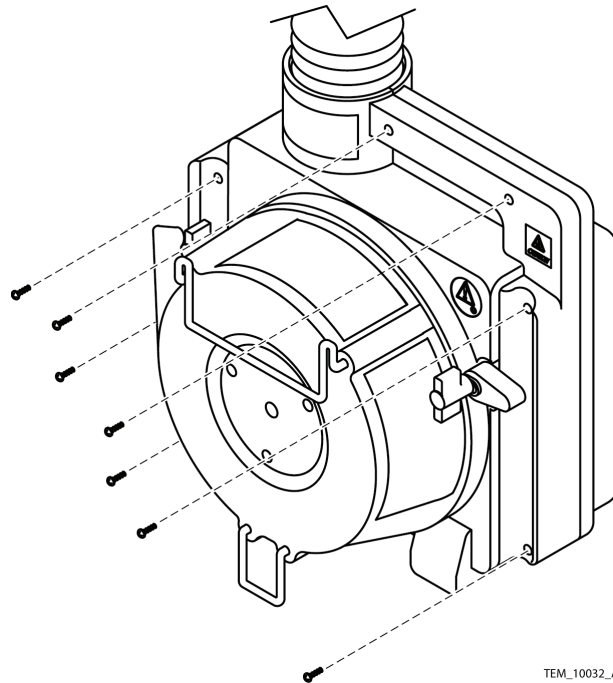

Figure 19. Cover Screw Locations
2. Install the screws through the holes in the rear cover to attach it to the front cover. Tighten the screws to 7 to 10 in/lbs (18 cm/kg to 25 cm/kg). See Figure 19.